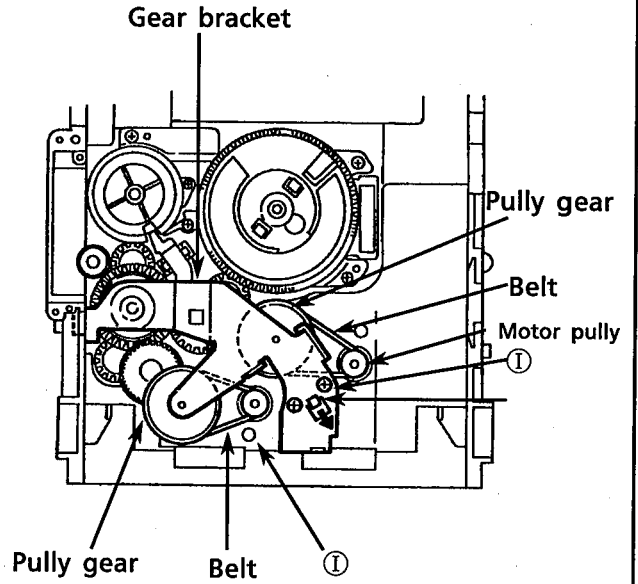

Fig. 23
1. Remove 2 screws ① securing the gear bracket. (See Fig. 23.)
2. Press the pawl ㊟ securing the gear bracket to the arrow in the figure to remove the gear bracket. (See Fig. 23.)
4. Remove each belts from the both actuator motor pulleies and the pulley gears. (See Fig. 23.)